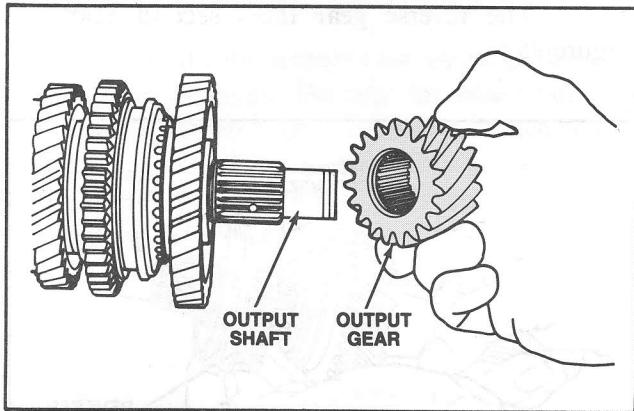

Figure 97 Output Gear Installation
**NOTE.** The beveled edge on the gear faces first gear. (Figure 97).